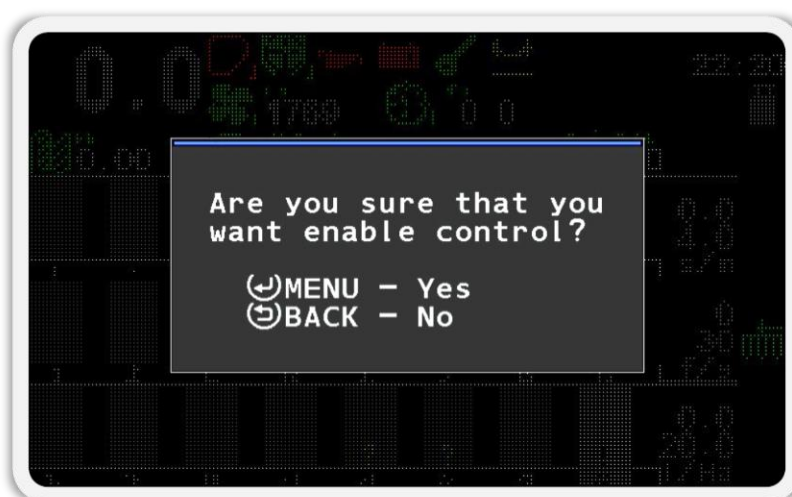

Figure 52
- Enable sensor control. To do this, press the  “Plus” button. In the message window, press the  “Menu” button to confirm your actions (see Figure 52).